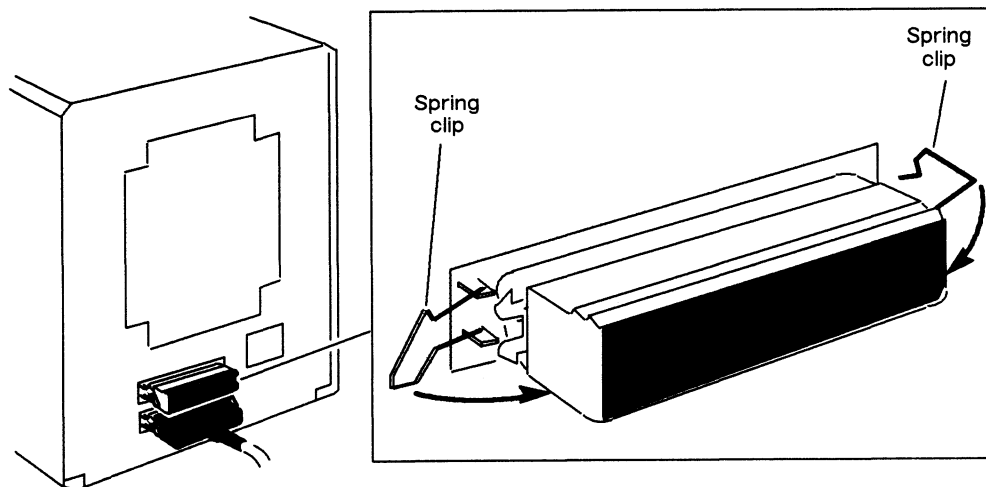

Figure 2-21 Connecting the SCSI Bus Terminator Plug
- Insert the terminator plug into the remaining empty connector, and secure the terminator plug by closing over the two spring clips in the direction shown in Figure 2-21.